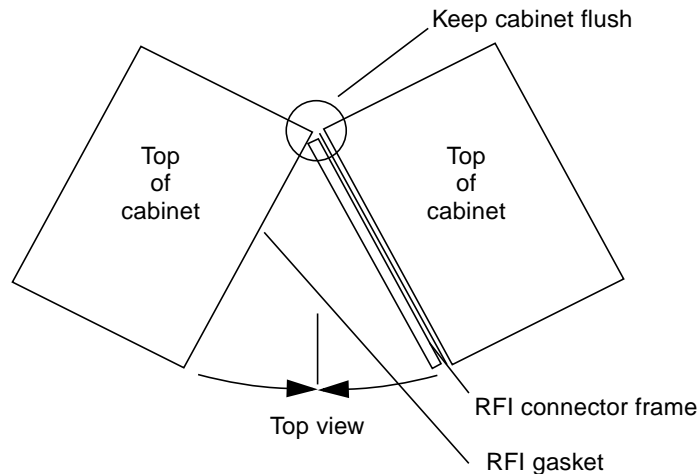

FIGURE B-12 Pushing Cabinets Together
2. **Position the cabinets to be connected, with the RFI connector frame close to the RFI gasket of the second cabinet. See FIGURE B-12. Note the position of the bottom outside surface of the RFI connector frame to the inside of the RFI gasket.**